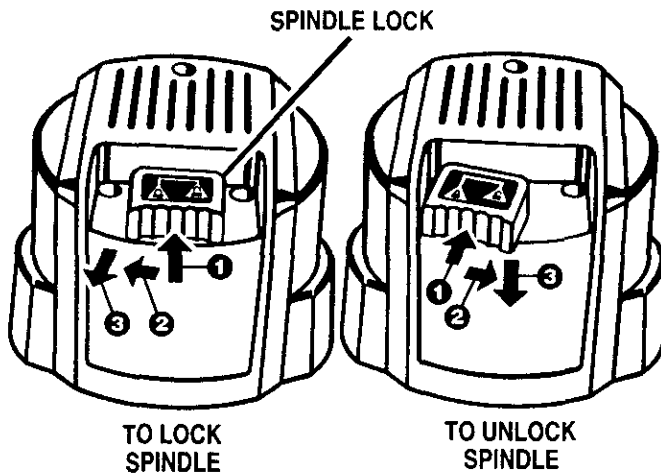

Fig. 2
See Figures 2, 3 and 4.
■ A spindle lock is located on the top of the end cap. See Figure 2. To activate lock, (1) push spindle lock in, (2) slide into lock position, then (3) release spindle lock.
Place spindle lock back in unlock position. Otherwise, interlocking mechanism of spindle lock will not let you turn your router on. To unlock spindle, (1) push spindle lock in, (2) slide into unlock position, then (3) release spindle lock. *See Figure 2.*